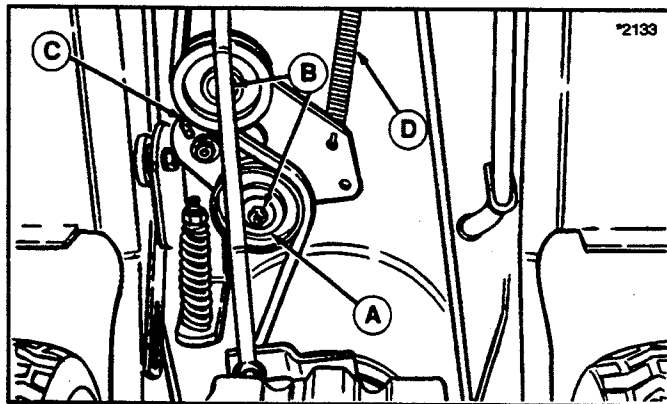
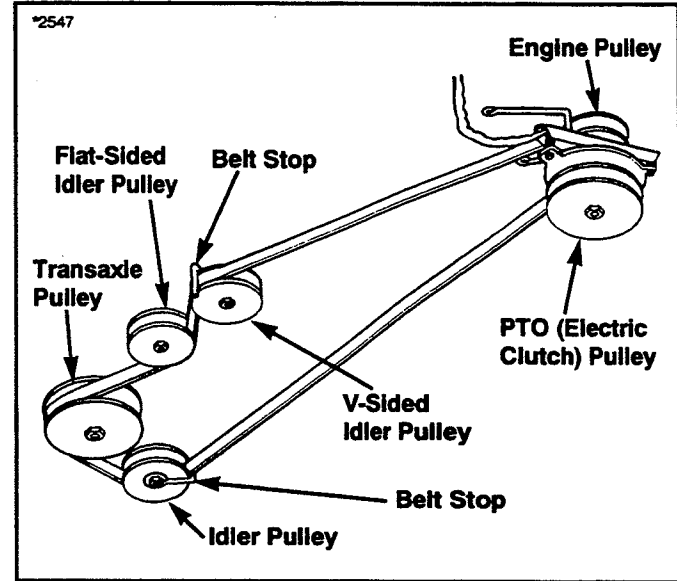

Figure 38. Drive Belt Idler Pulley
Figure 40. Tractor Drive Belt Routing - Gear Models
3. See figure 38. To remove the belt from the idler pulley (A), loosen flange whiz nuts (B). Slip belt from between belt stop (C) and idler bracket.
4. Release the parking brake. Rotate idler pulley to relieve spring tension and remove spring (D, figure 38).
8. See figure 40. Slip belt from the transaxle and idler pulleys. Loosen the belt stops on the idler pulley as necessary. Remove belt from the tractor.
9. Install new belt to the transaxle and idler pulleys as shown in figure 40. Adjust belt stops to $\frac{1}{16}$ " - $\frac{1}{8}$ " from belt.
10. Re-install idler pulley spring (D, figure 38) to frame with new belt routed between spring and bottom of frame.
11. Lock parking brake to position idler pulley bracket. Install new belt to the idler pulleys as shown in figure 38. Make sure belt is properly routed on flat and V-sided pulleys. Refer to figure 40 for proper routing. Tighten nuts (B, figure 38) securing pulleys.
12. See figure 40. Check belt routing around engine pulley, idler pulleys, and transaxle pulley. Check that the electric clutch, drag link and idler pulley spring are all correctly installed.